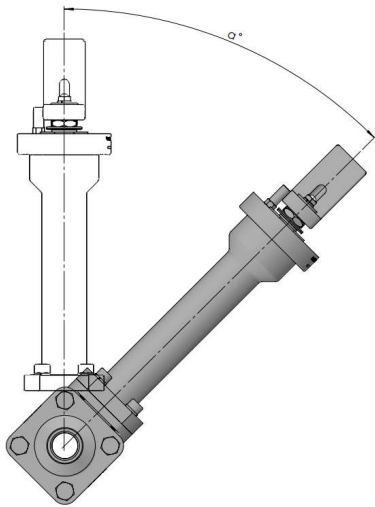

Figure 1 – Recommendation for alignment of the extension
- The valve should be preferable installed in vertical position. Either way it is allowed to be rotated from the vertical up to 25° for short extension version or 75° for the long extension version according to Figure 1 – Recommendation for alignment of the extension;